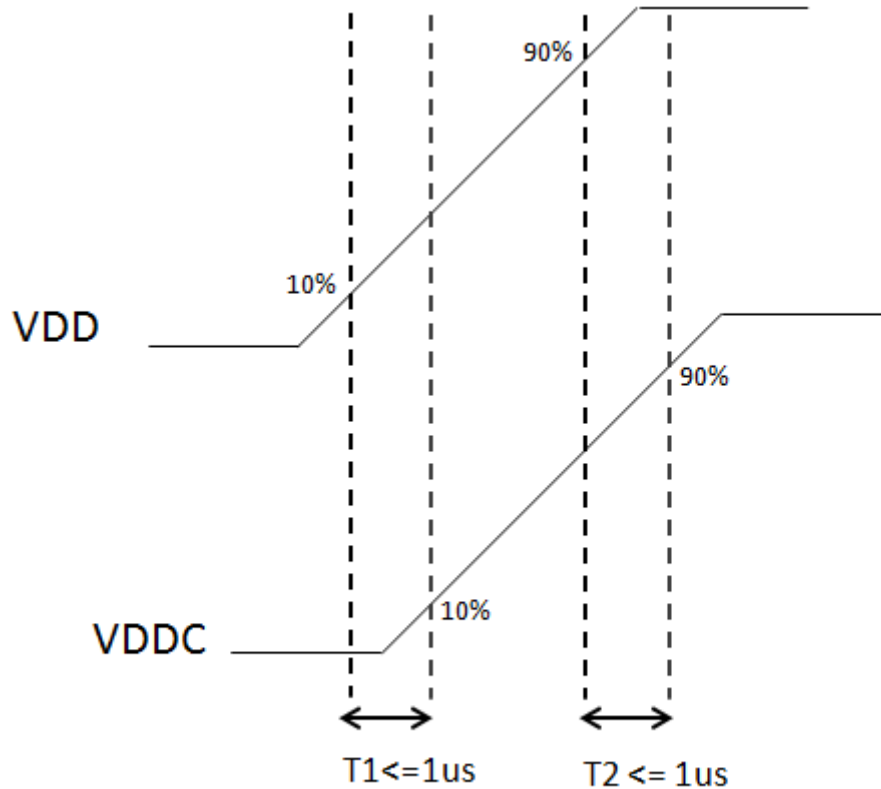

Figure 9. V_{DDC} and V_{DD} ramp up diagram
- b. When Deep Sleep is used, V_{DDC} should ramp up before V_{DD} . Alternatively V_{DD} may ramp up together with V_{DDC} provided that the relative timing between V_{DDC} and V_{DD} ramp up conforms to Figure 9